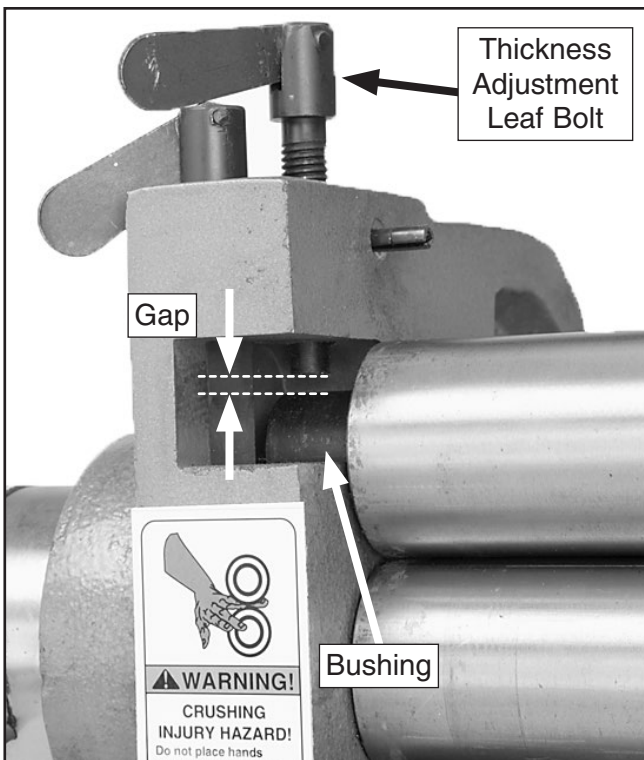

Figure 18. Backing off the top roller.
3. Unscrew the thickness adjustment leaf bolt until the gap (**Figure 18**) between the leaf bolt and the bushing is wider than the thickness of the workpiece.